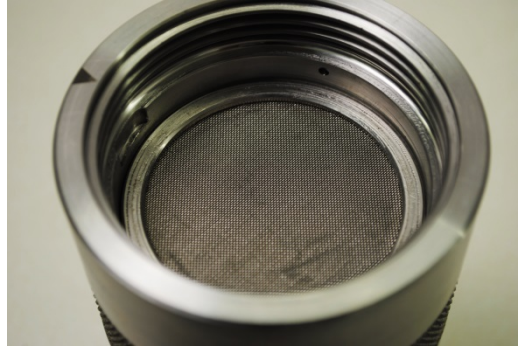

Figure 4-3 Screen in cell
5. Put the screen on the filter paper (Figure 4-3)